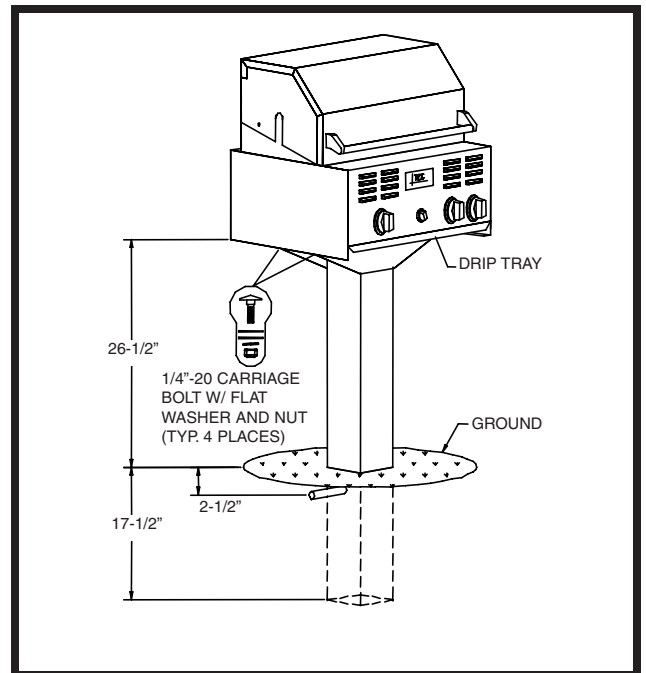
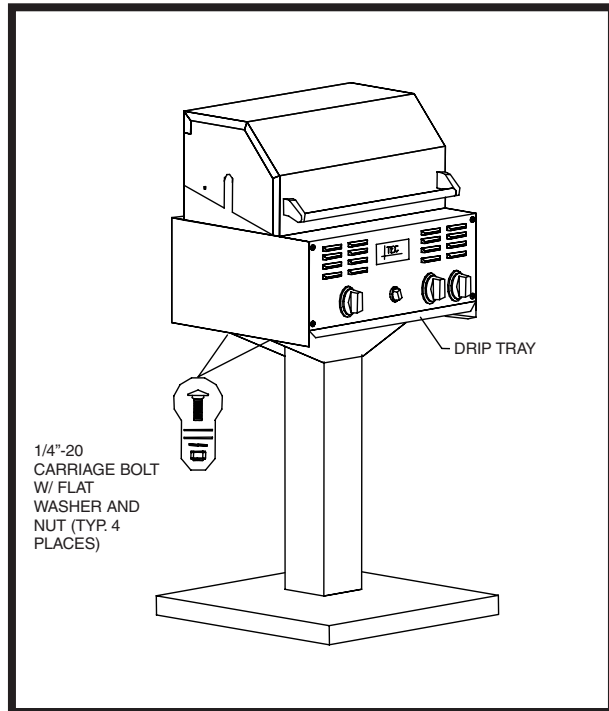

Figure 4. In-ground Post Base
Figure 5. Bolt-down Post Base
1. Install the In-ground or Bolt-down Post Base in accordance with the instructions accompanying the Post Base. (See Figures 4 & 5.)
3. Fasten the Housing to the Base with the supplied hardware. (Hardware needed: Four (4) 1/4" - 20 x 1/2" L carriage bolts, eight (8) 1/4" flat washers, four (4) 1/4" lock washers and four (4) 1/4"-20 nuts.) (See Figure 4 or Figure 5.)